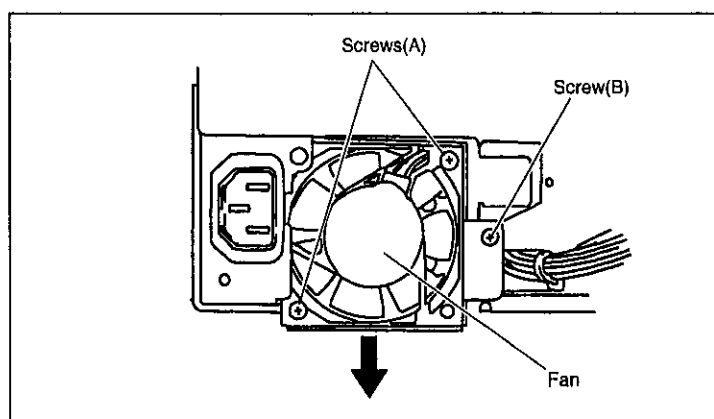

Fig. 8-34
- 4) Remove 2 screws(A), screw(B), and Fan, as shown in Fig. 8-34.